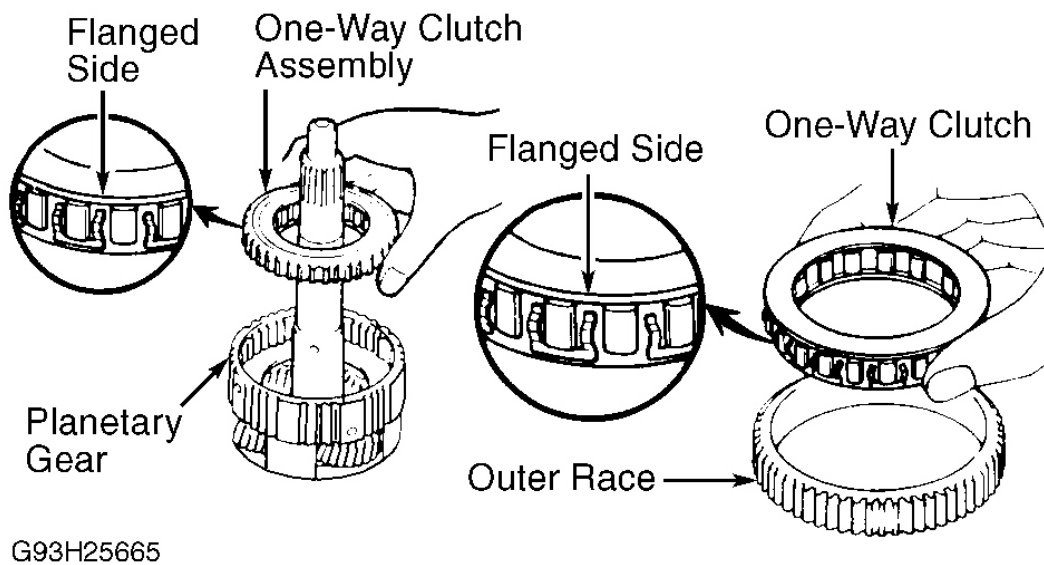

Fig. 29: Installing Overdrive One-Way Clutch
1. Position planetary gear with input shaft pointing upward. Install thrust washer in planetary gear with grooved side facing upward. Install one-way clutch into outer race with flanged side facing upward. See **Fig. 29** -29.